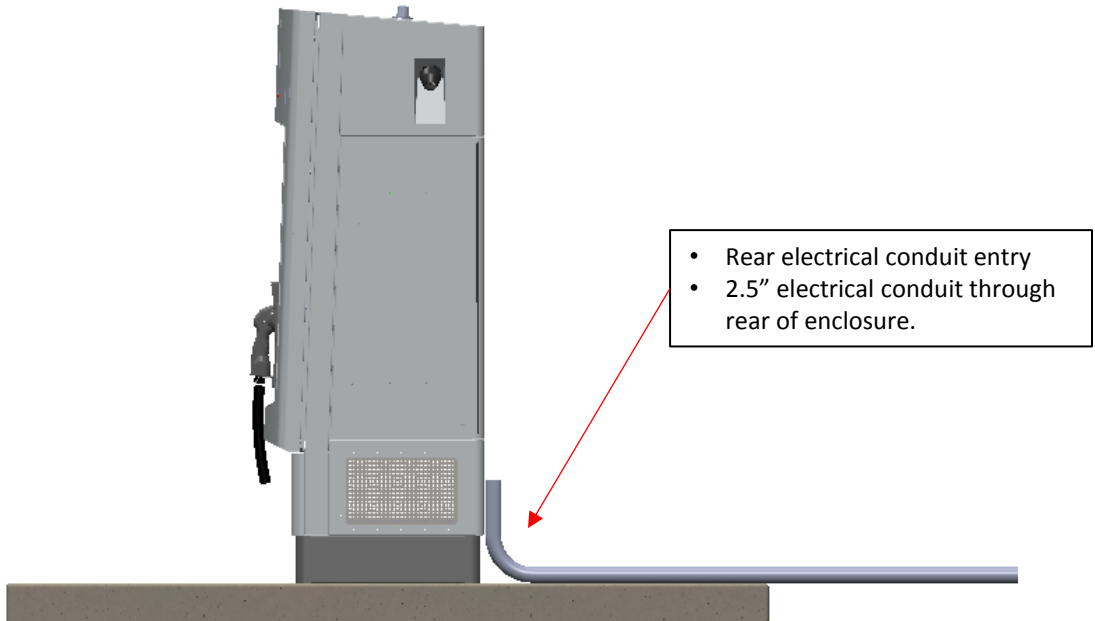

Figure 2.
2. Insert the expansion bolt sleeve entirely in the hole without the fixture as shown in fig. 2 above.
In cases where the concrete cannot be trenched an electrical connection into the enclosure can be made via the hole provided on the right hand side of the enclosure as shown in Figure 2 & 3.